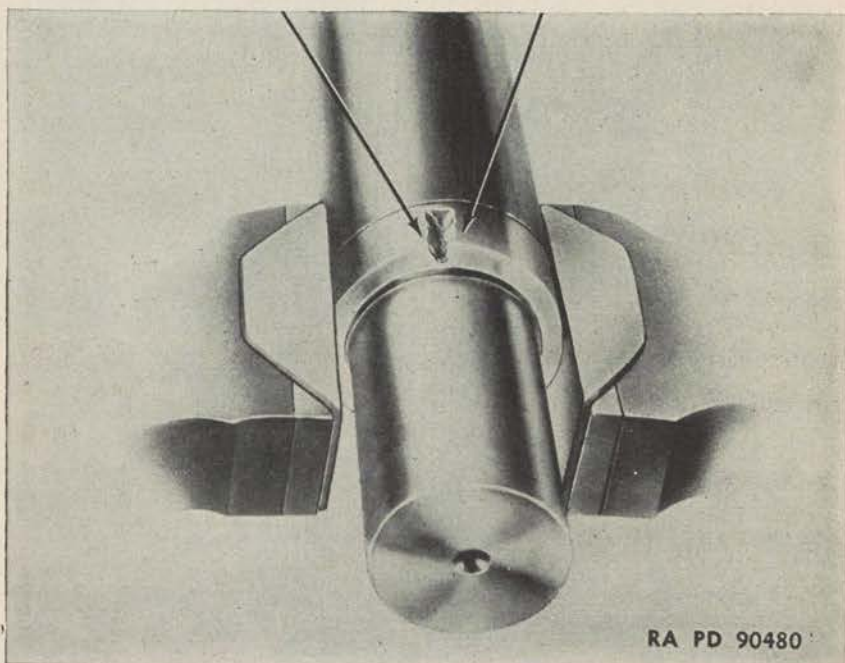

Figure 26. If ring has been cut to remove, squeeze in vise and strike smartly at points indicated to fracture it. Be careful of shaft.
f. **GRINDING AND SPLITTING**. Sometimes a separable inner ring is installed against a shoulder of equal diameter so that there is no way to grip it. Leave the bearing ring on if it is usable. Otherwise, when no other method of ring removal can be used, the ring must be cut off with a torch. Using a grinder or acetylene flame, burn it part way through in order not to harm the shaft. This may loosen the ring enough so that it can be pulled off. If not, crack through the rest of the way with hammer and cold chisel. (See fig. 26.) The chisel should not be directed